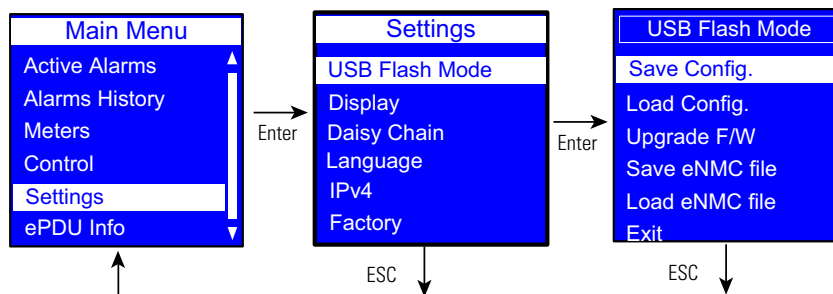

Figure 55. Example Save Config.
6. Select Save Config (see Figure 55).